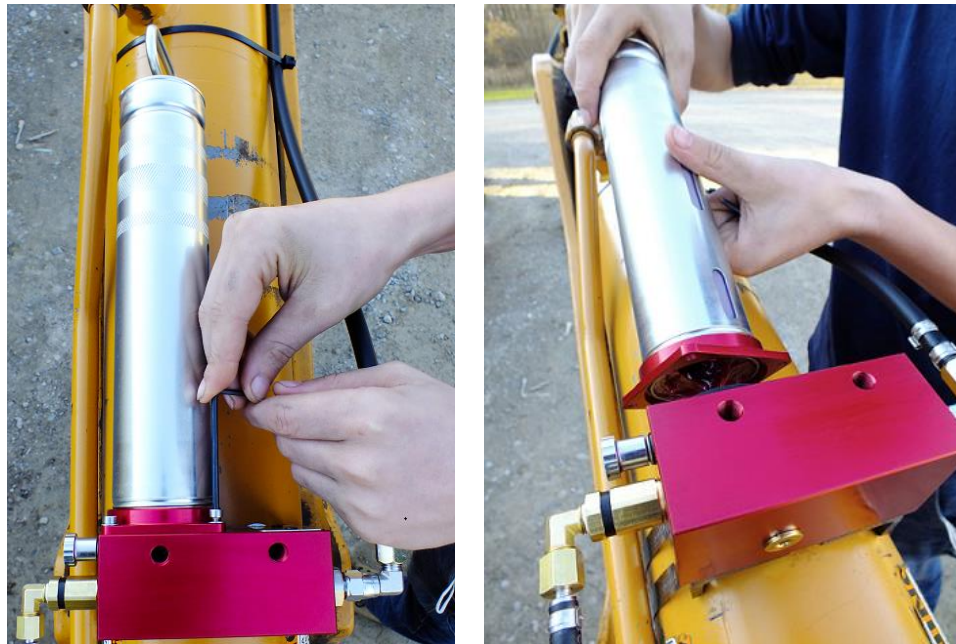

Figure 17 Rotating the Grease Tube Making the Viewports Visible
- Change the tube adapter orientation as needed. (Illustrated in **Figure 17**)